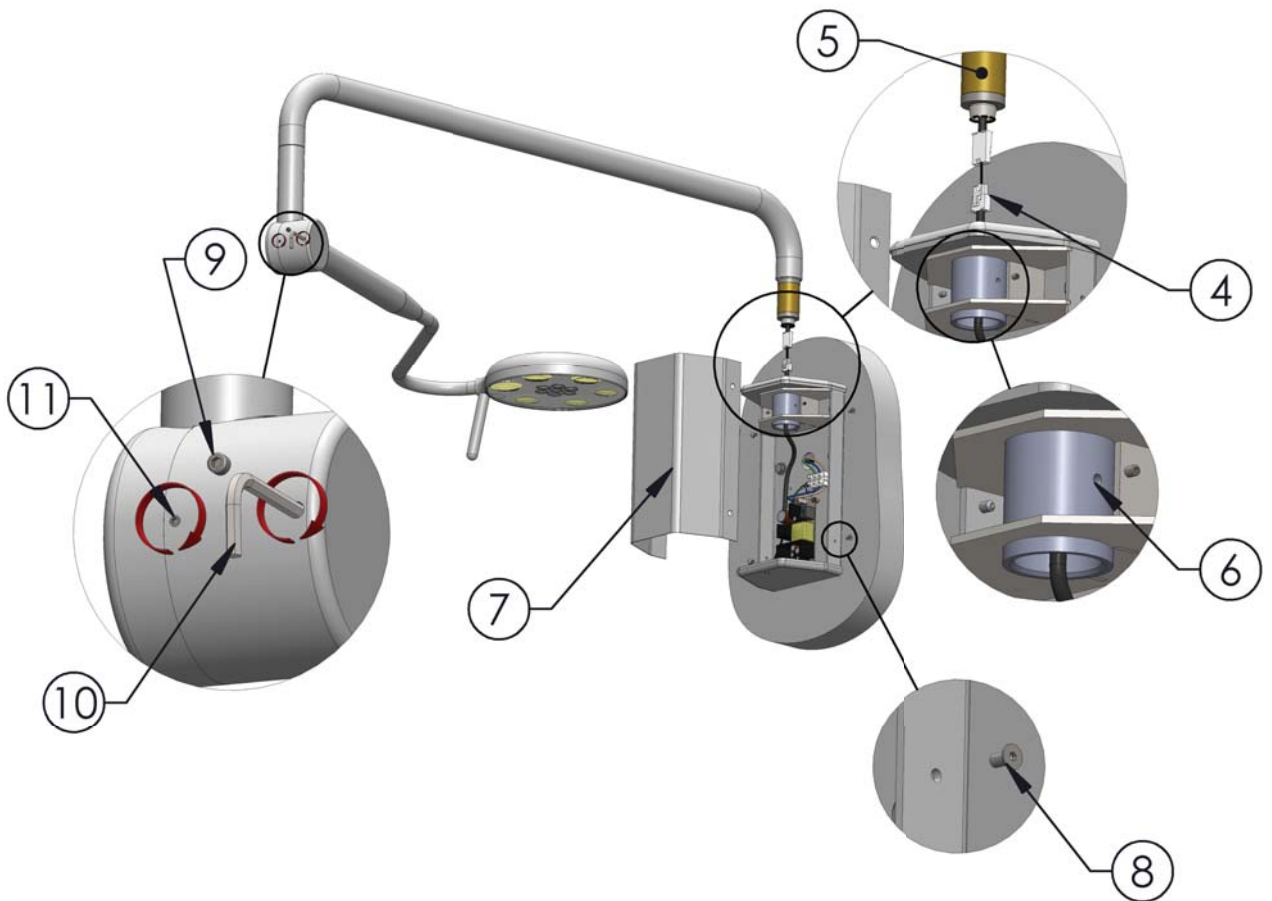

Fig. 18.0
4. Lift Phantom arm into place, and engage the 24v plugs as shown in Fig. 18.0.
5. Insert the arm bearing into the wall unit (taking care to align the threaded holes on the arm side bearing sheath with the corresponding holes on the bearing sheath on the wall unit, as shown in Fig. 18.0).
6. Insert and tighten the two grub screws to complete the fixing of the arm to the wall unit as shown in Fig. 18.0.
7. Replace the wall unit cover as shown in Fig. 18.0.
8. Fix in the place with the countersunk screws provided, as shown in Fig. 18.0.
9. Unscrew the end cap for access to the spring balance adjustment, as shown in Fig. 18.0.
10. Adjust the spring balance: using a 4mm allen key, adjust the screw inside the knuckle. Clockwise/ Tightening the screw will cause heavier engagement of the spring - this will improve 'head droop'. Anticlockwise/loosening the spring balance will fix a 'rising head' issue, as shown in Fig 18.0.
11. Friction adjustment: Clockwise/tightening this screw will apply more friction to the arm mechanisms, as shown in Fig. 18.0. The arm will require more force to move, however will not continue to move with moment. This should be set to the staff preference.